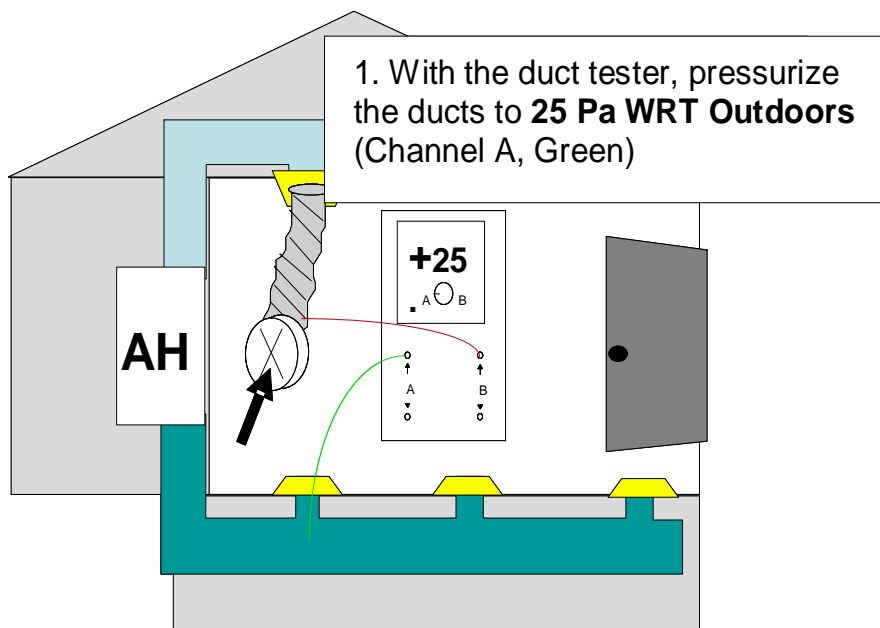

Figure 1: Pressurizing the duct system
1. With the duct testing device, **pressurize** the ducts to **+25 Pascals with respect to (WRT) outside** (see Figure 1).